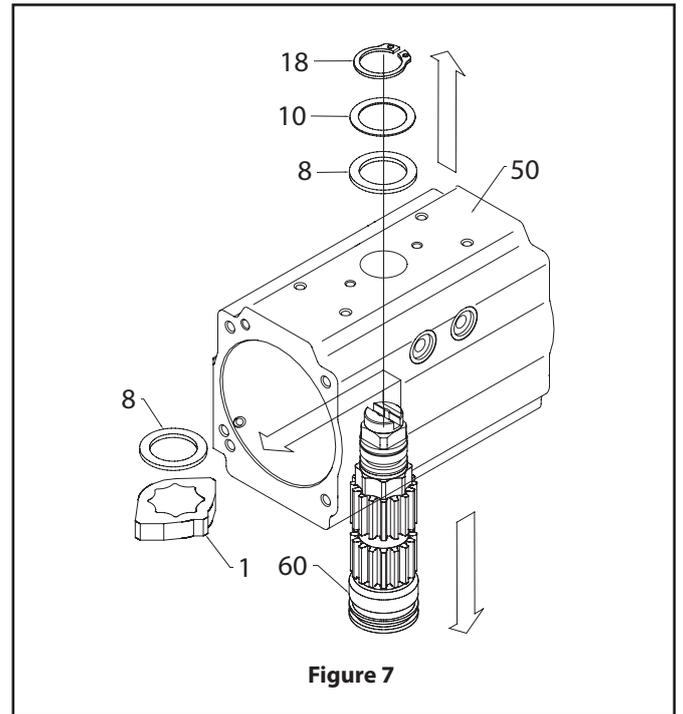

Figure 7
**5. Drive Shaft (60) and Bearing (6, 7) Disassembly, (Figure 7):**
- A. Remove spring clip (18) carefully. Remove external thrust bearing (8) and thrust washer (10).
- B. Apply downward force to top of drive shaft (60) until it is partially out of the bottom of the body (50) and the octi-cam (1) and internal thrust bearing (8) can be removed. Remove the octi-cam (1) and internal thrust bearing (8). Push the drive shaft (60) completely out of the bottom of the body (50). If the shaft (60) does not move freely, gently tap with a plastic mallet.